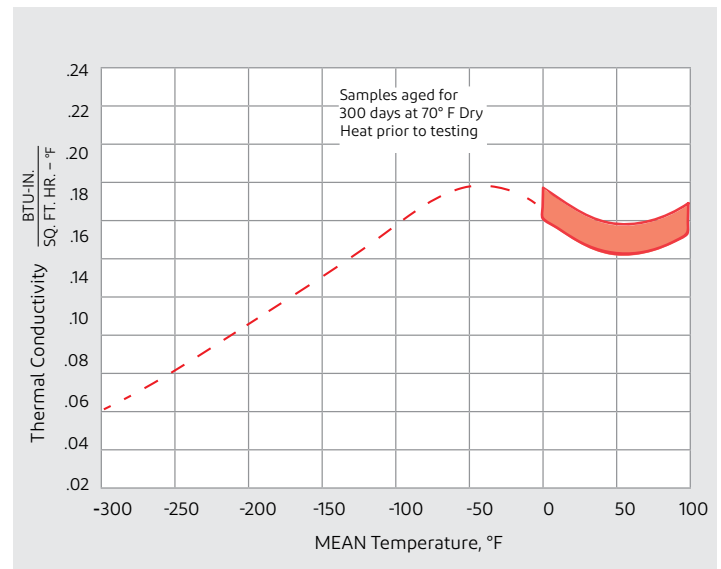

Figure 1 – Thermal Conductivity vs. Mean Temperature of Thurane
But some materials exhibit strange behavior. Their gently curving line has a bump in it. These strange materials are typically insulations. More specifically, insulations that contain an insulating gas that enhances the R-Value of the material are known to exhibit the “mean temperature phenomena”. When the gas condenses to a liquid within the insulation at lower temperatures, the R-Value is slightly reduced as the condensed gas can no longer influence the R-Value of the insulation. This phenomenon has been known and understood for a long time. Here is a graph from a polyisocyanurate technical publication in 1965 (See Figure 1). It uses conductivity (1/R-Value) rather than R-Value, but the distinctive bump is still there. So there is nothing surprising, unusual, or unknown about detecting this kind of curve with certain plastic foam insulations.
2. Thermax™ Brand Insulation does not change R-Value any differently than mineral wool in real world assemblies when the exterior temperature gets very low. Even at a temperature as low as -15°F. This data shows that the alleged poor low temperature performance of polyisocyanurates shown in other studies (refer to Figure 1) simply does not apply to Thermax™ Brand Insulation. 1.55" of Thermax™ Brand Insulation installed direct to the steel studs performed thermally equal to a system comprised of 2.4" Mineral Wool, WRB and Exterior Sheathing (3" total thickness).